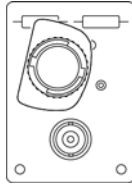

Figure 17 **Signal to +Input**
- c Carefully connect the input of the probe to the test board in the position shown in Figure 17.